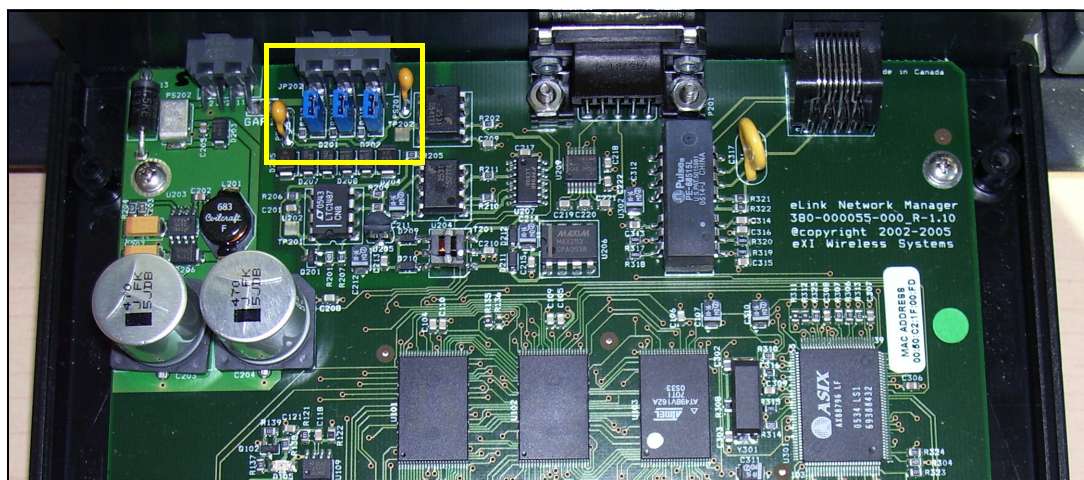

Figure 3-23: Network Manager Termination Jumpers
- 3 Remove the three blue jumpers (**R215**, **R216**, and **R217**). See Figure 3-23 below.